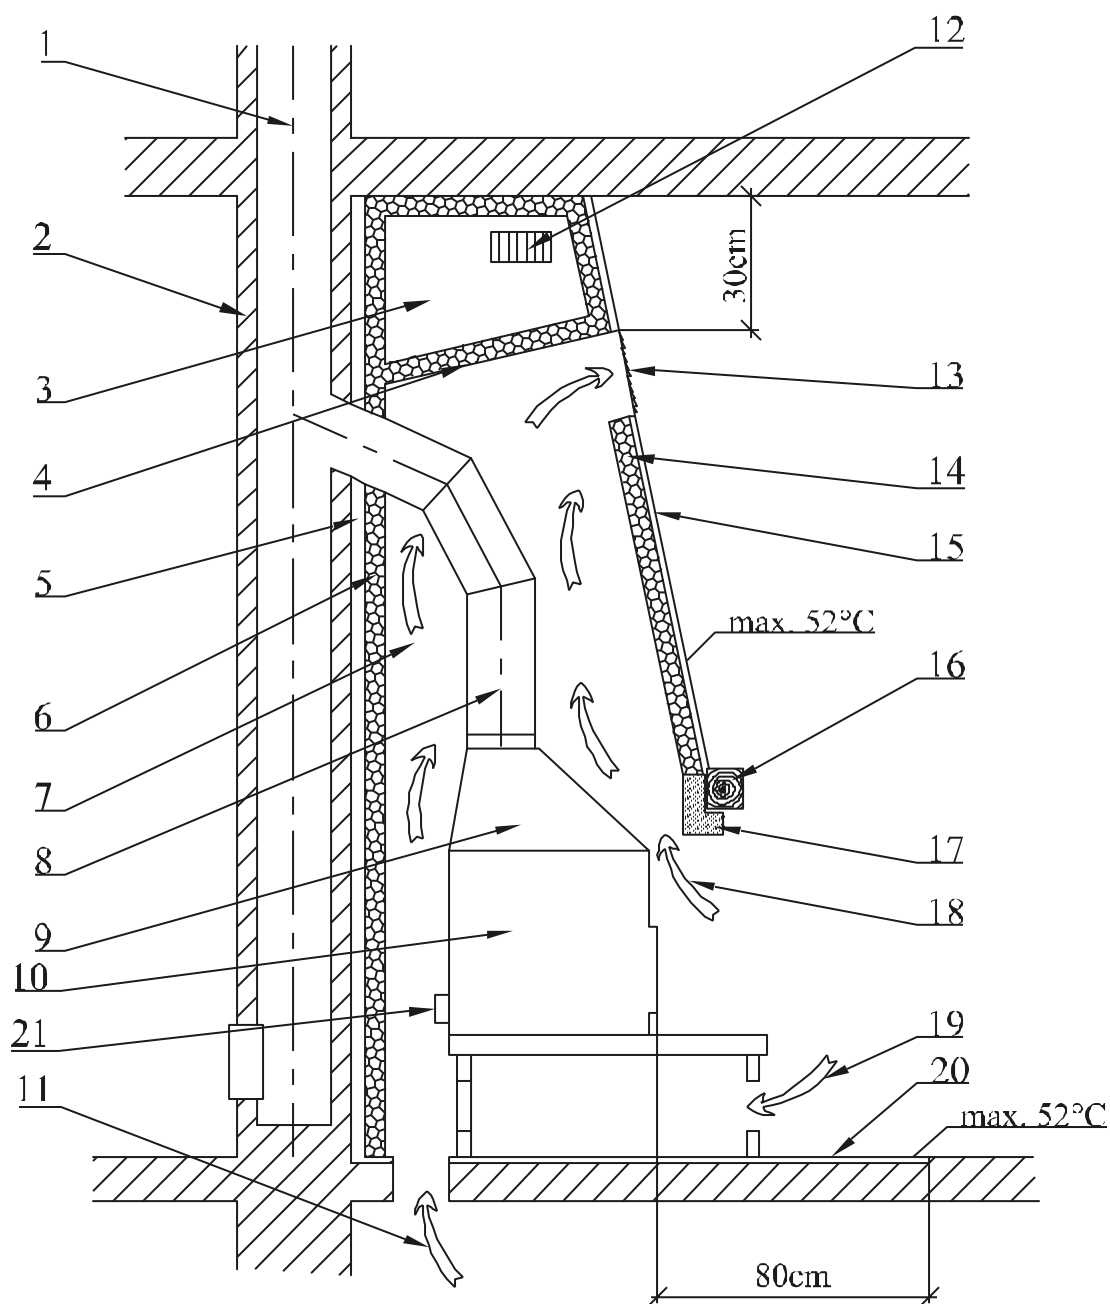

Figure 2
The safe distance from door case covers and similarly located building constructions from flammable materials and from pipeline installation including its insulation is at least **20cm**. The safe distance from other flammable parts of the building construction at least **40cm** (see fig.2) according to **ČSN 06 1008/1997**. This includes building materials belonging to classes **B, C and D** as defined in **ČSN EN 13501-1+A1/2010** (see table no.1) The same applies for walls and especially ceilings with plaster on a flammable surface, e.g. crates, planks, etc.! When the prescribed safe distances cannot be kept, the danger of fire must be prevented through construction solutions, non-flammable applications, heat-resistant insulations or protection screens.
5. The warm conventional air outlet must be at least **30cm** below the ceiling (figure 2).
6. An inflammable ceiling construction must be present above the conventional warm air outlet. Its temperature must not exceed **50°C**. Thus, the lower ceiling must be insulated from the effects of heat coming from the fireplace by a barrier and at least one not fully closeable grated opening (figure 2) or a sufficient layer of heat insulation.